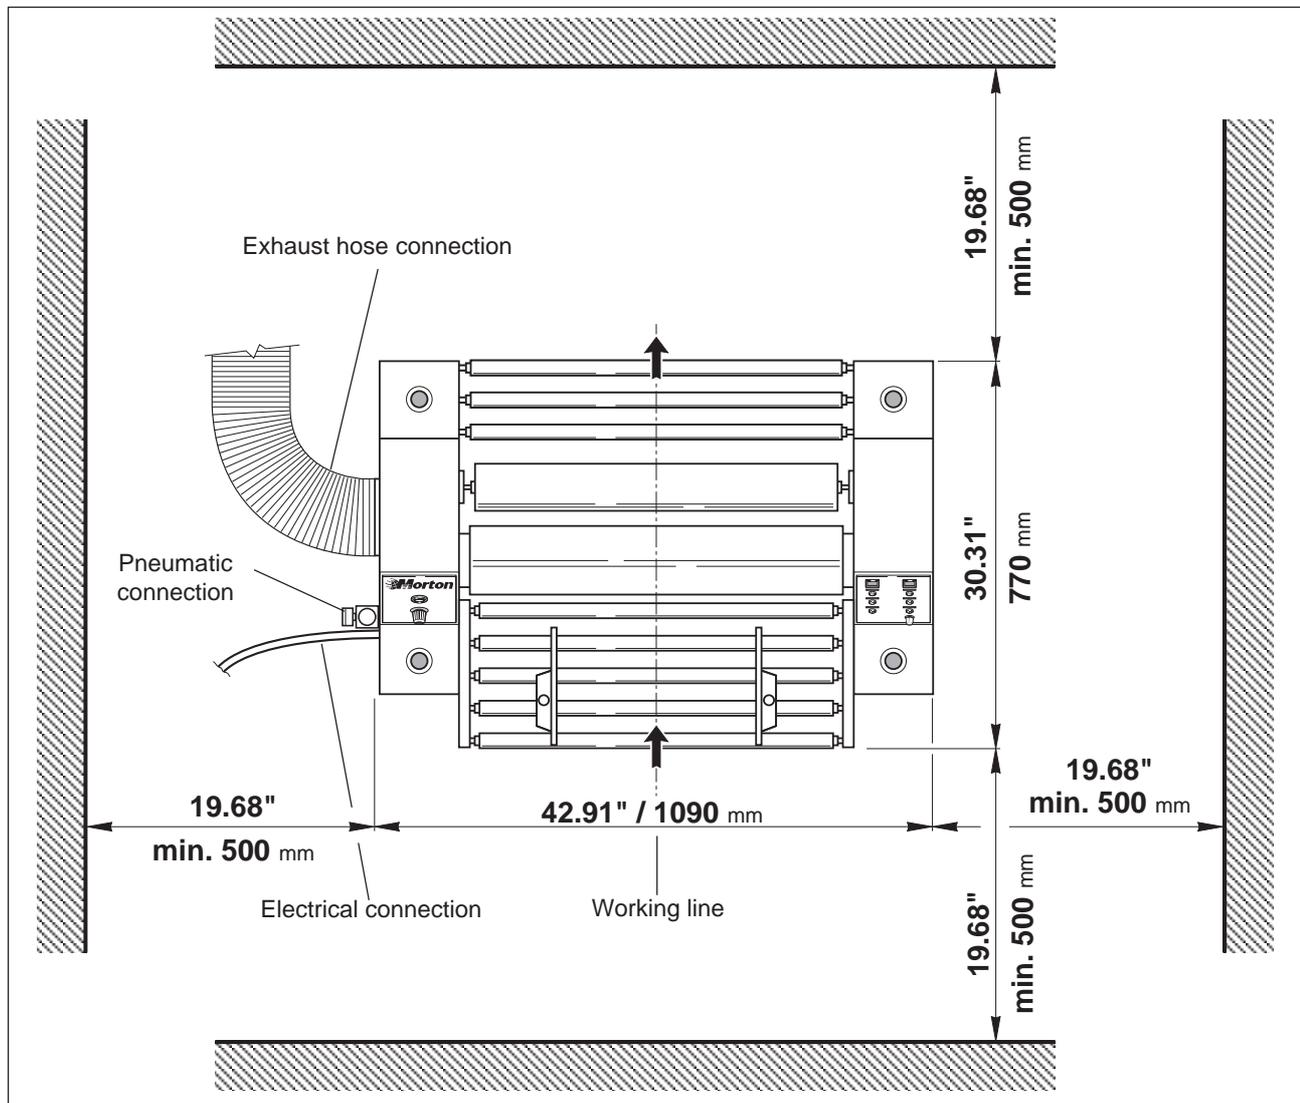

Fig. 2 - INSTALLATION PLAN VIEW
1.5A - Installation (Fig. 2)
- The Manual Laminator 360/N must be positioned by carefully following in strict compliance the measurements given in Fig. 2. These indicate the minimum space required by the operator to correctly carry out each work sequence and/or servicing operation.